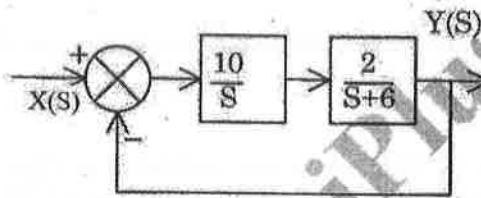

Fig. 5
- (b) (i) For the system shown in fig. 5, find the effect of PD controller with $T_d = 1/10$ on peak overshoot and settling time when it is excited by unit step input.